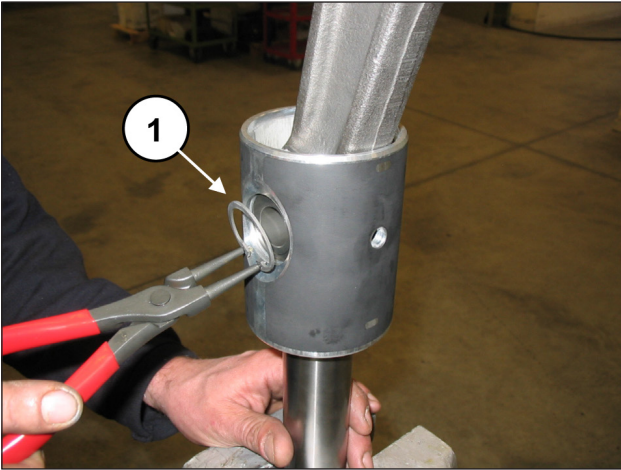
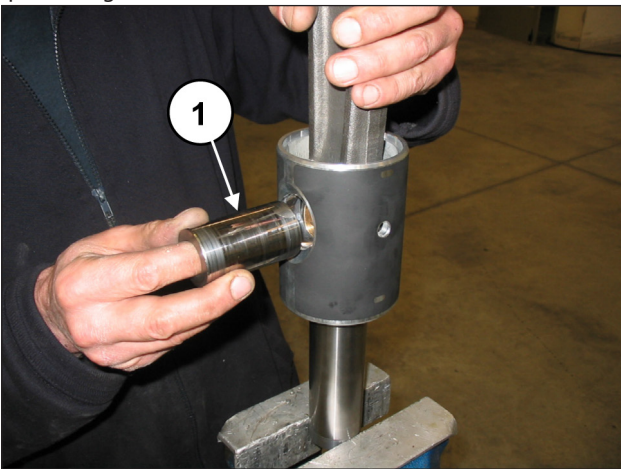
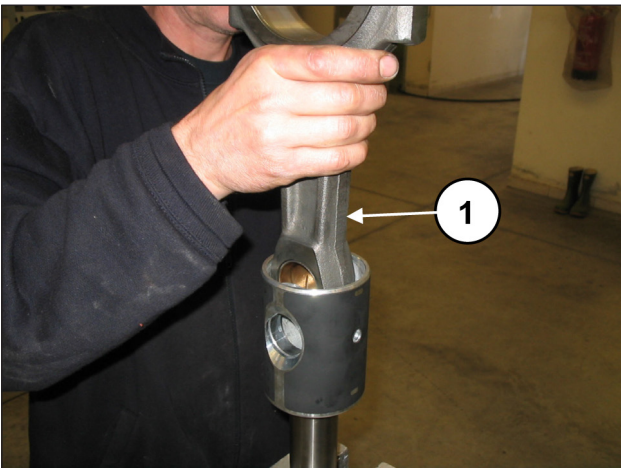

Fig. 44
Fig. 45
Fig. 46
Remove the two spindle locking Seeger rings using a special tool (pos. ①, Fig. 44).
Remove the spindle (pos. ①, Fig. 45) and extract the con-rod (pos. ①, Fig. 46).
Insert the con-rod in the piston guide (pos. ①, Fig. 46) and then insert the spindle (pos. ①, Fig. 45). Fit on the two Seeger rings with the special tool (pos. ①, Fig. 44).